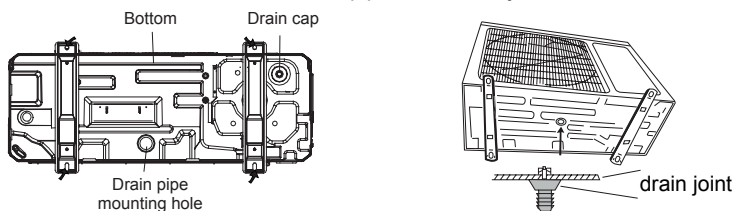

Fig. 4.8
4.2.2 Condensate Drainage of the Outdoor Unit(Fig.4.8)